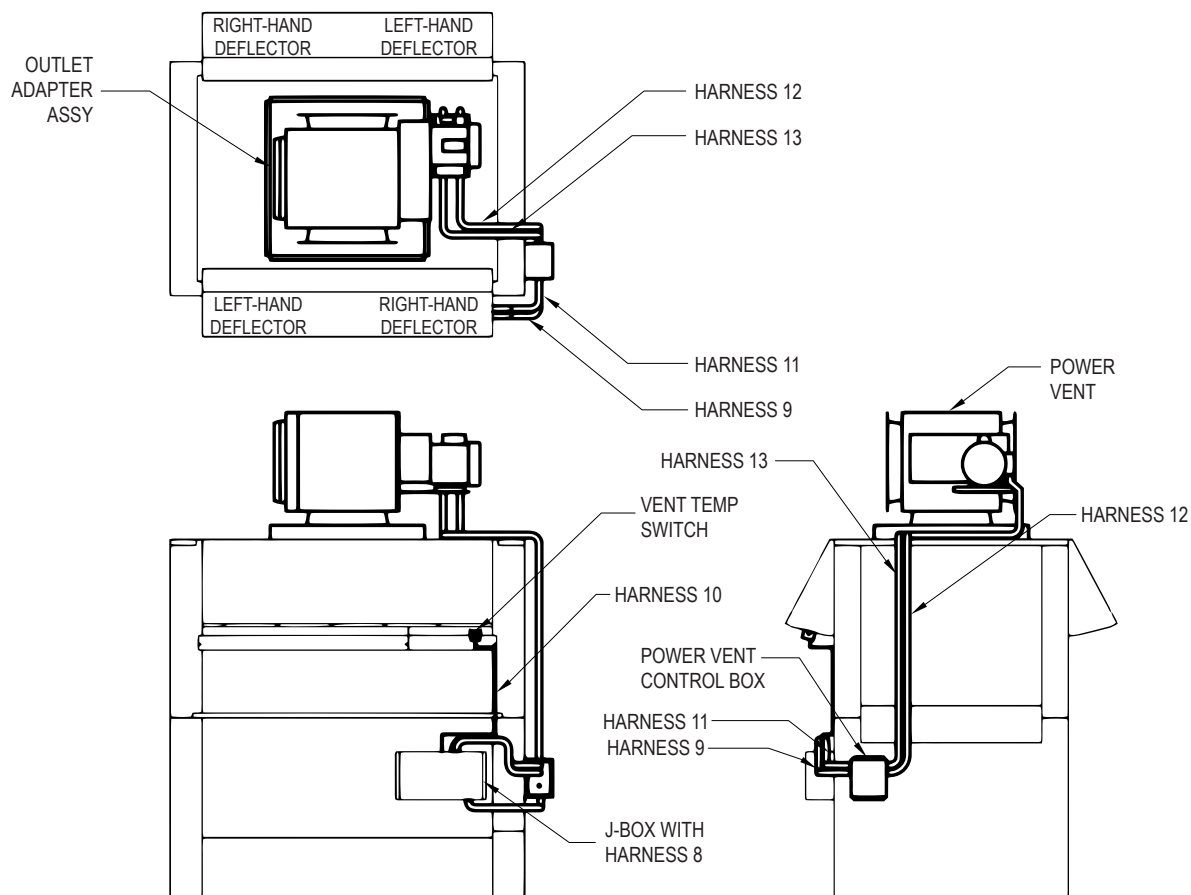
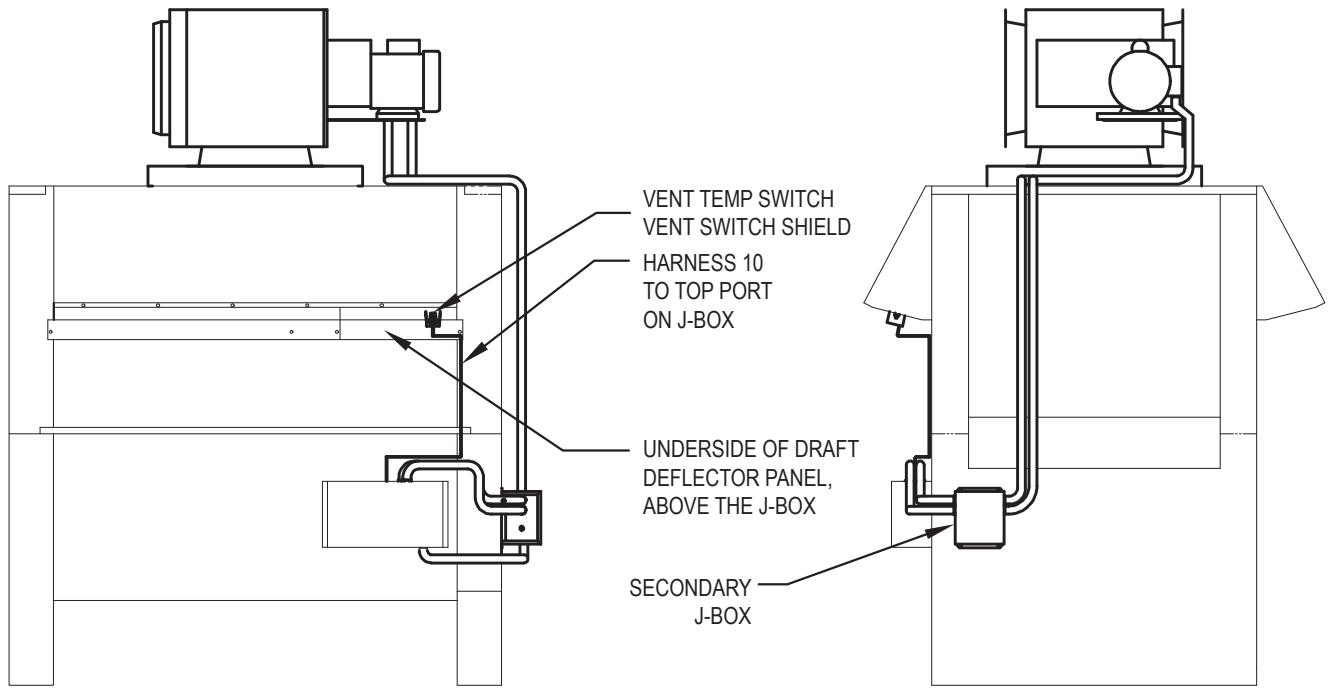

Figure 14. Orientation, Models 2100-4001
Figure 16. Vent Temp Switch
3. Mount the power vent (PV) control box on the right-hand end of the unit, near the J-box, using the 4x #10 screws provided. See the orientation drawing, **Figure 14**.
4. Install the draft deflector panels on the underside of the angled "wings" of the draft hood, using a pair of #10 screws to hold each in place and an additional pair of #10 screws to secure them together in the middle. See **Figure 14** and **Figure 15**.
5. Install the vent temperature switch provided in the hole in the “right-hand” draft deflector panel above the J-box. The switch fits into the hole from beneath and is secured from above by a pair of #6 screws. It is surrounded by the vent switch shield. See **Figure 14** and **Figure 16**.
7. Identify and lay out the conduit-enclosed wiring harnesses per the orientation drawing, **Figure 14**.
9. Connect the end of HARNESS 9 with the wirenut to the J-box, using the provided connector. See **Figure 14**, for recommended conduit opening.
13. Connect the loose end of HARNESS 9 to the PV control box. See **Figure 14** for recommended conduit opening.
16. Connect the end of HARNESS 11 with 2 spade connectors and 1 stripped GRN wire, and connect it to the PV control box, using the connector provided. See **Figure 14** for preferred location.
20. Connect the end of HARNESS 12 with spade connectors to the J-box, using the connector provided. See the orientation drawing, **Figure 14**, for preferred location.
24. Connect the end of HARNESS 13 with spade connectors to the J-box, using the connector provided. See the orientation drawing, **Figure 14**, for preferred location.